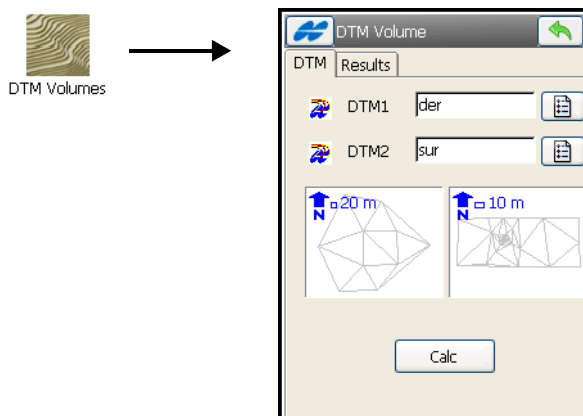

Figure 10-31. DTM Volume
1. On the **DTM Volume** screen, select two DTM files and tap **Calc** (Figure 10-31).